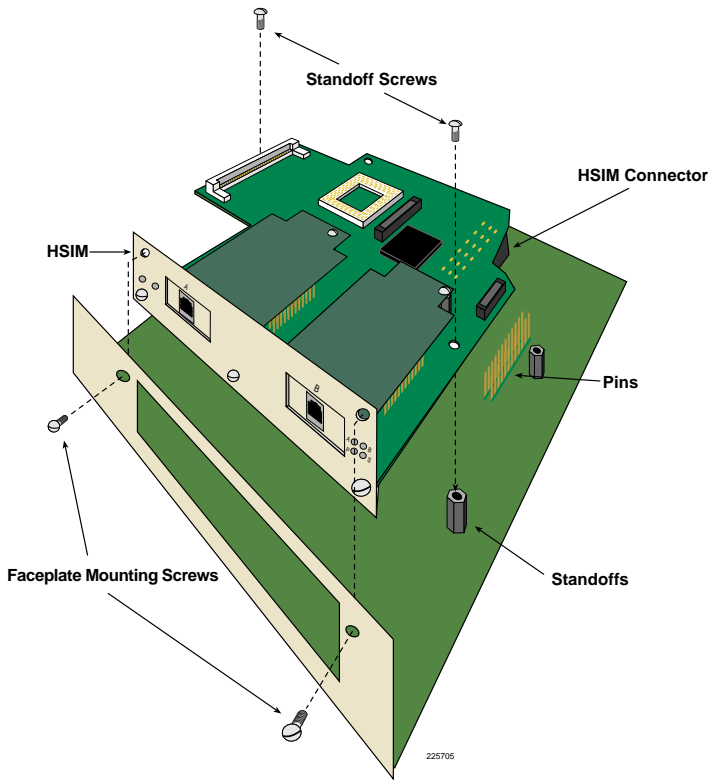

Figure 2-4 Installing the HSIM-F6
7. Refer to **Figure 2-4** and place the HSIM behind the module faceplate.